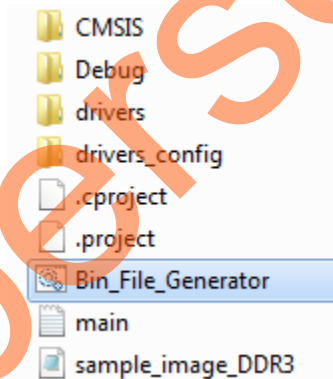

Figure 18. Bin File Generator
3. Double-click batch file **Bin-File-Generator** in the SoftConsole/CodeShadowing_MSS_CM3/Sample_image_DDR3 folder, as shown in Figure 18.